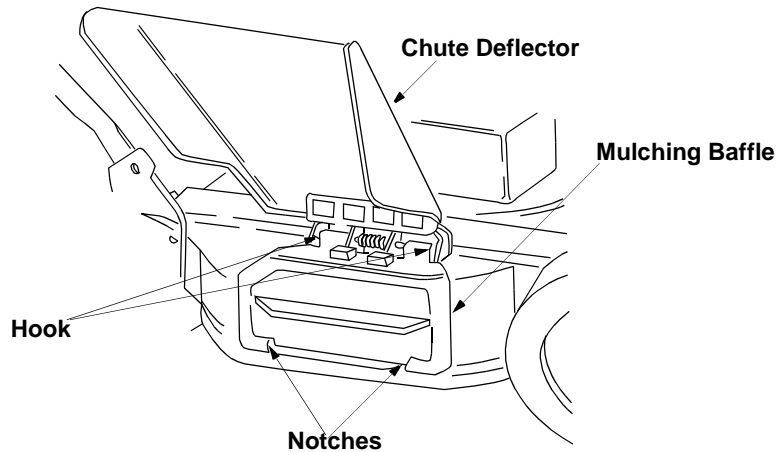

Figure 11
- Lift the chute deflector up and slide the notches at the bottom of the mulching baffle over the lip of the discharge opening. See Figure 11.